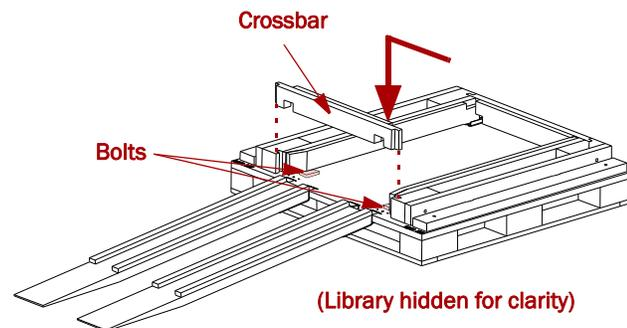

Figure B-6: Removing the Rear Crosspiece
- c. Attach the **rear crosspiece** (Figure B-6). This is done by opening the rear door, sliding the left end of the crosspiece into its recess, and lowering the right end of the crosspiece into its slot.